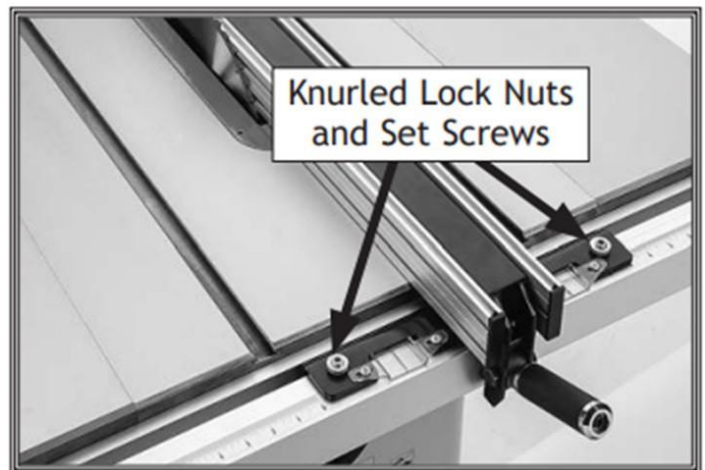

Figure 57: fence height adjustment.
- 3 - Loosen the knurled lock nuts and adjust the set screw on the face of the fence bracket see figure 57 Until the angle is perfectly 90° to the table. Tighten the lock nuts the fence is square.